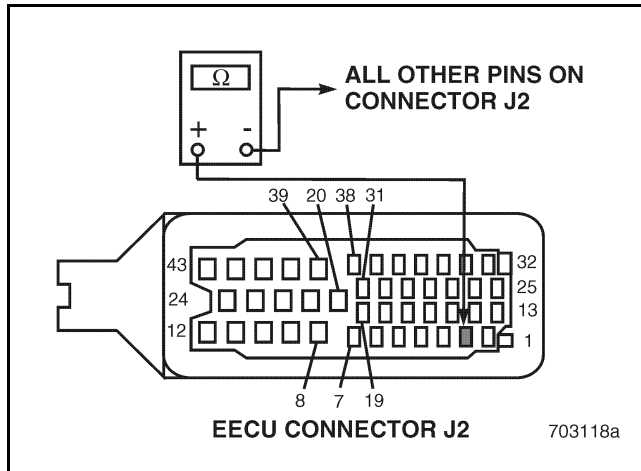

Figure 323
4. Check for continuity between EECU harness connector J2 pin 2 (reference voltage line) and all other pins in EECU harness connector J2 (see Figure 323).